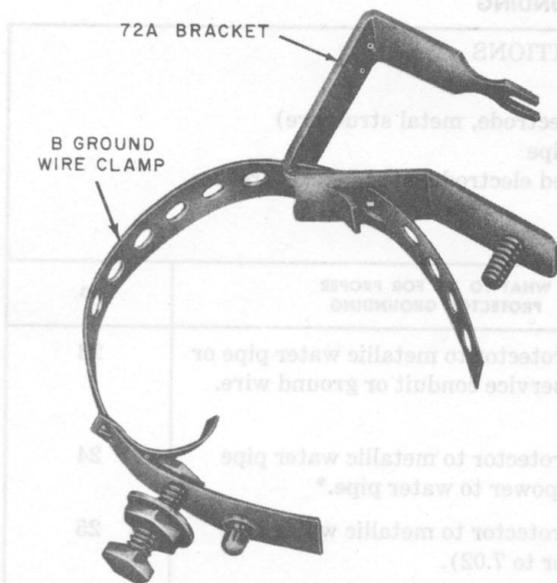

Fig. 8—B Station Ground Wire Clamp Through Slot in 72A Bracket
3.01 The 72A bracket is used to mount a 123A1A protector on an acceptable metallic cold water pipe by means of a B station ground clamp (Fig. 8 and 9).